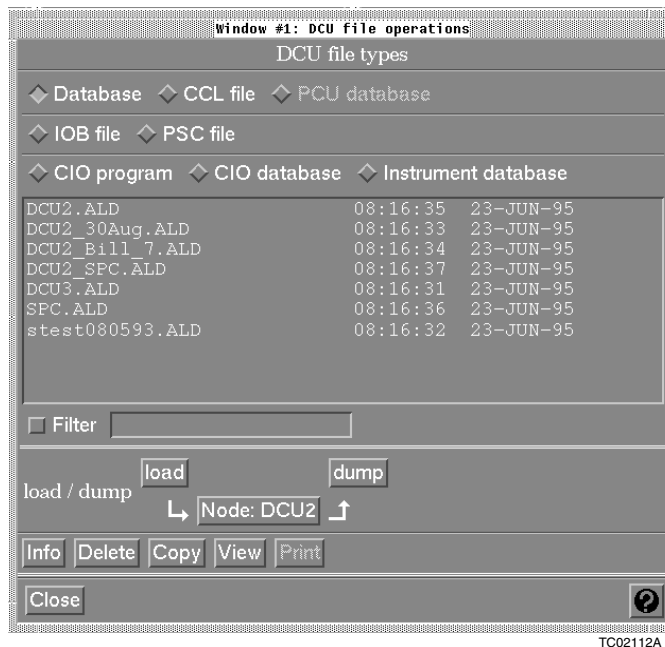

Figure 6-1. DCU File Operations Window
3. Select the file operations option. A file operations window appears similar to Figure 6-1.